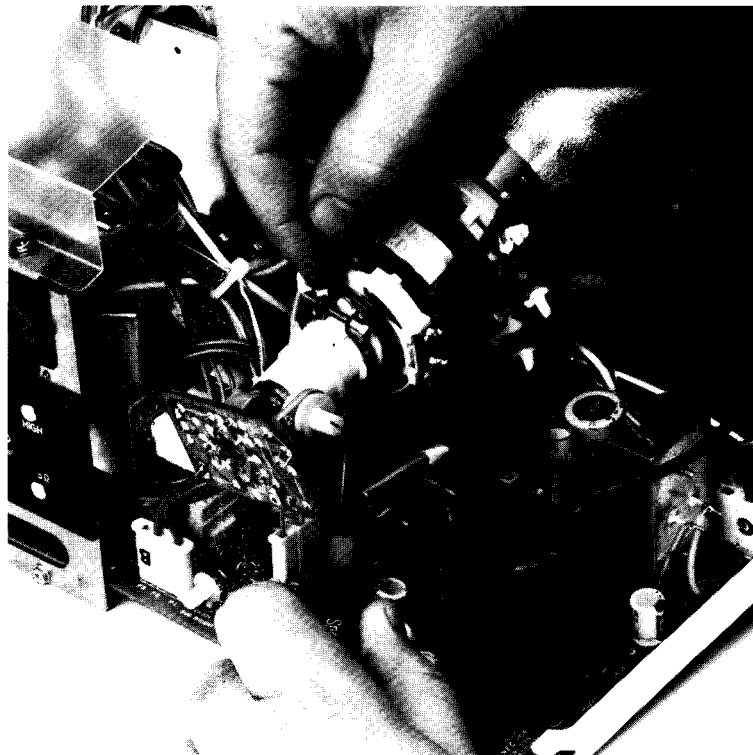

Figure 4-4. Centering the Display
- b. Moving the two tabs on the centering magnets on the yoke (see figure 4-4) until the display is centered in the CRT.